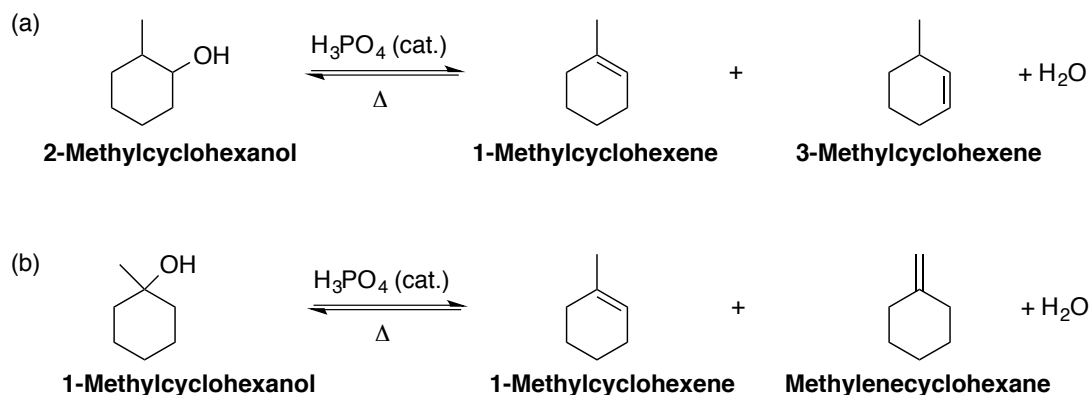

Figure 1. Dehydration of methylcyclohexanols
In this experiment, students will perform the acid-catalyzed dehydration of either **1-** or **2-methylcyclohexanol** (Figure 1). Students are assigned an alcohol starting material at the beginning of lab. The pre-lab questions should address both reactions to be prepared for either. The elimination reactions have two possible regioisomeric products. The major and minor products can be predicted according to Zaitsev's rule, which states that a more highly substituted alkene is more stable and favored. Students use gas chromatography (GC) to analyze the reaction mixture and compare to the retention times of commercially available standards to confirm their hypotheses. In addition, students confirm the presence of an alkene in the product with the potassium permanganate (KMnO4) chemical test. KMnO4 is lovingly called the "Barney reaction." It starts off dark purple and turns brown with the formation of a precipitate (MnO2). Refer to the McMurry or Klein text for further discussion of the permanganate-mediated oxidative cleavage reactions.